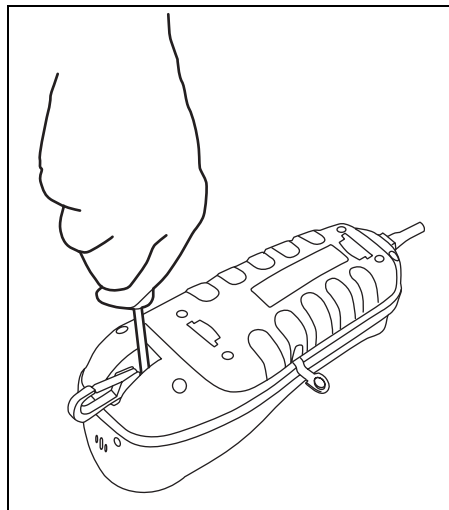

Figure 3-2. Replacing the Belt Clip
- 1 Using a Phillips screwdriver, remove the two screws that secure the belt clip to the test set housing (see Figure 3-2).